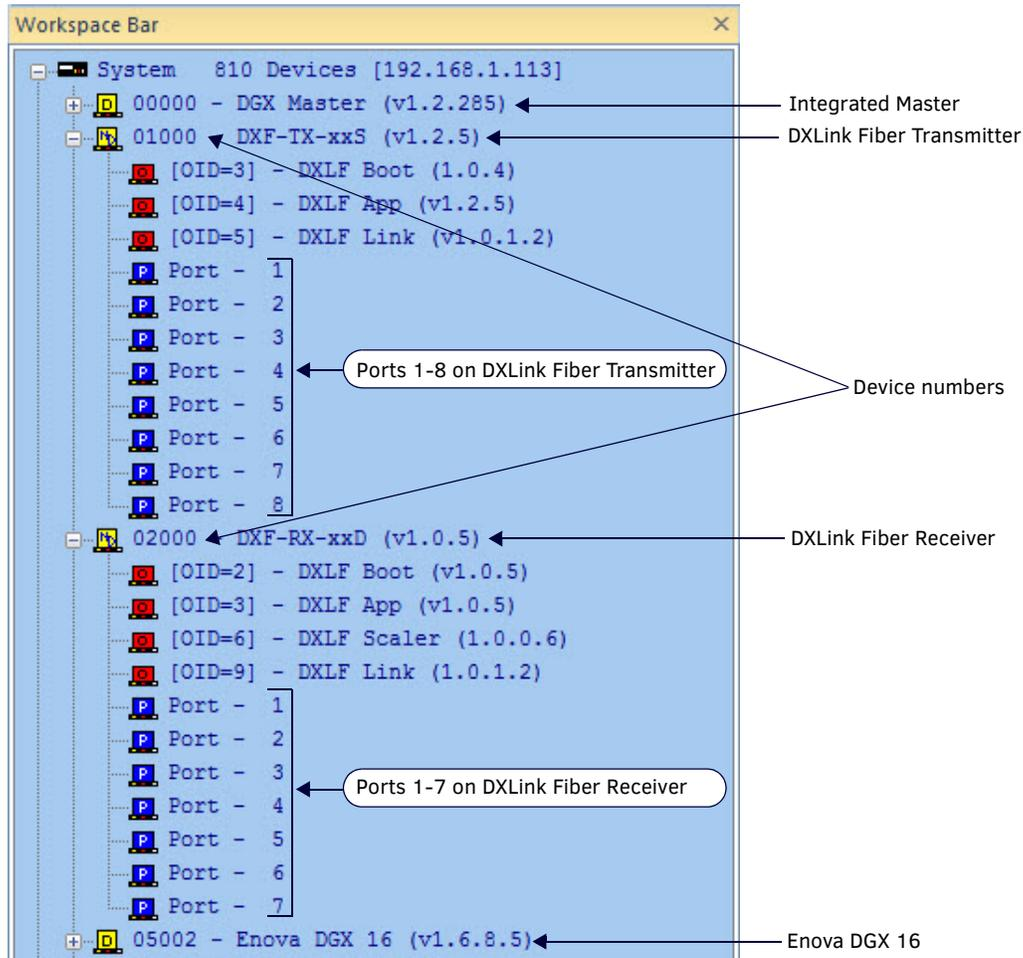

FIG. 30 NetLinX Studio – Integrated Master, Enova DGX 16, DXLink Fiber Transmitter and Receiver
When a Transmitter and/or a Receiver are being used in conjunction with a switcher, the switcher's integrated Master is used for the IRL file transfer. FIG. 30 shows a Transmitter and a Receiver bound to the integrated Master in an Enova DGX 16 in NetLinX Studio's OnLine Tree. Follow the instructions on the top of page 57 to prepare for IRL file transfer and the instructions on page 58 for the actual transfer.
7. Determine the Device Number assigned to the target Transmitter or Receiver when it was bound. For the Device Number location, see FIG. 30 on the previous page.